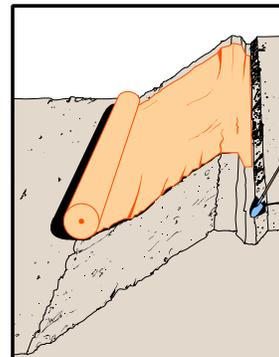

Figure 2 Geotextile Placement
- Most non-vegetated slope applications involve a non-woven or woven geotextile separator layer at the sub grade surface. When required, this separation layer is critical to the performance of the slope system. Refer to Figure 2.